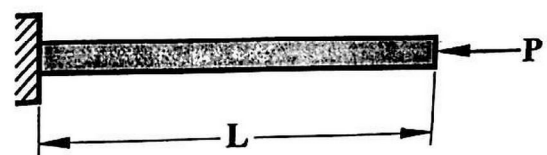

Fig. 3
4. Using virtual work principle derive the governing equation and boundary conditions for the buckling of the column as shown in Fig. 3 and determine the critical buckling load. (10)